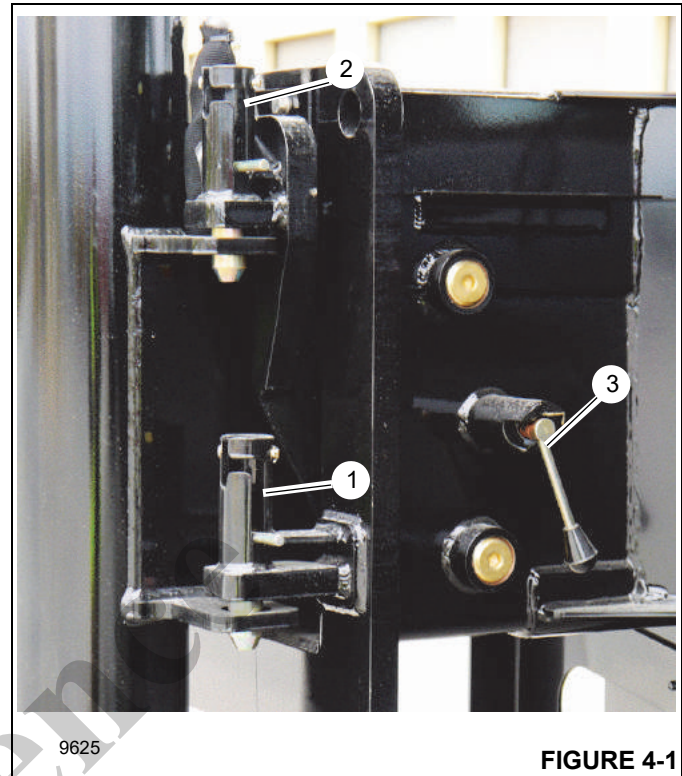

FIGURE 4-1
1. Disengage the mechanical travel lock (1, Figure 4-1) that secures each outrigger beam in the fully retracted position during travel.
- b. 50% extended position. Engage the manual over-center locks (2, Figure 4-1) for the midpoint position.
- c. (NTC50L/NTC55L only) 75% extended position. Engage the manual locks (3, Figure 4-1) by rotating the handle clockwise.